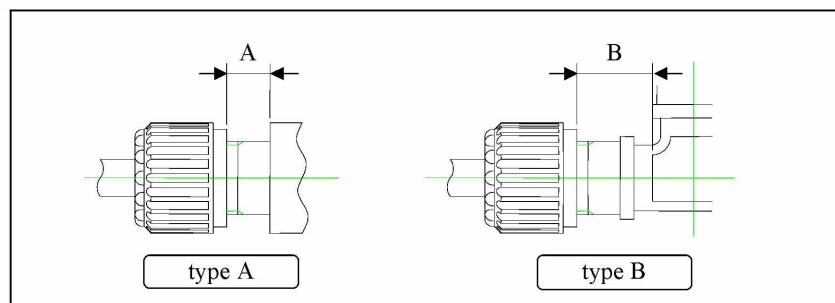

Fig.12 - Gaps as criterion for tightness check (3, 4, W1)
3)Type A: Applies to injection-molded fittings of straight type and machined PTFE fittings (see Fig.12).
4)Type B: Applies to injection-molded fittings of elbow and Tee type (see Fig.12).